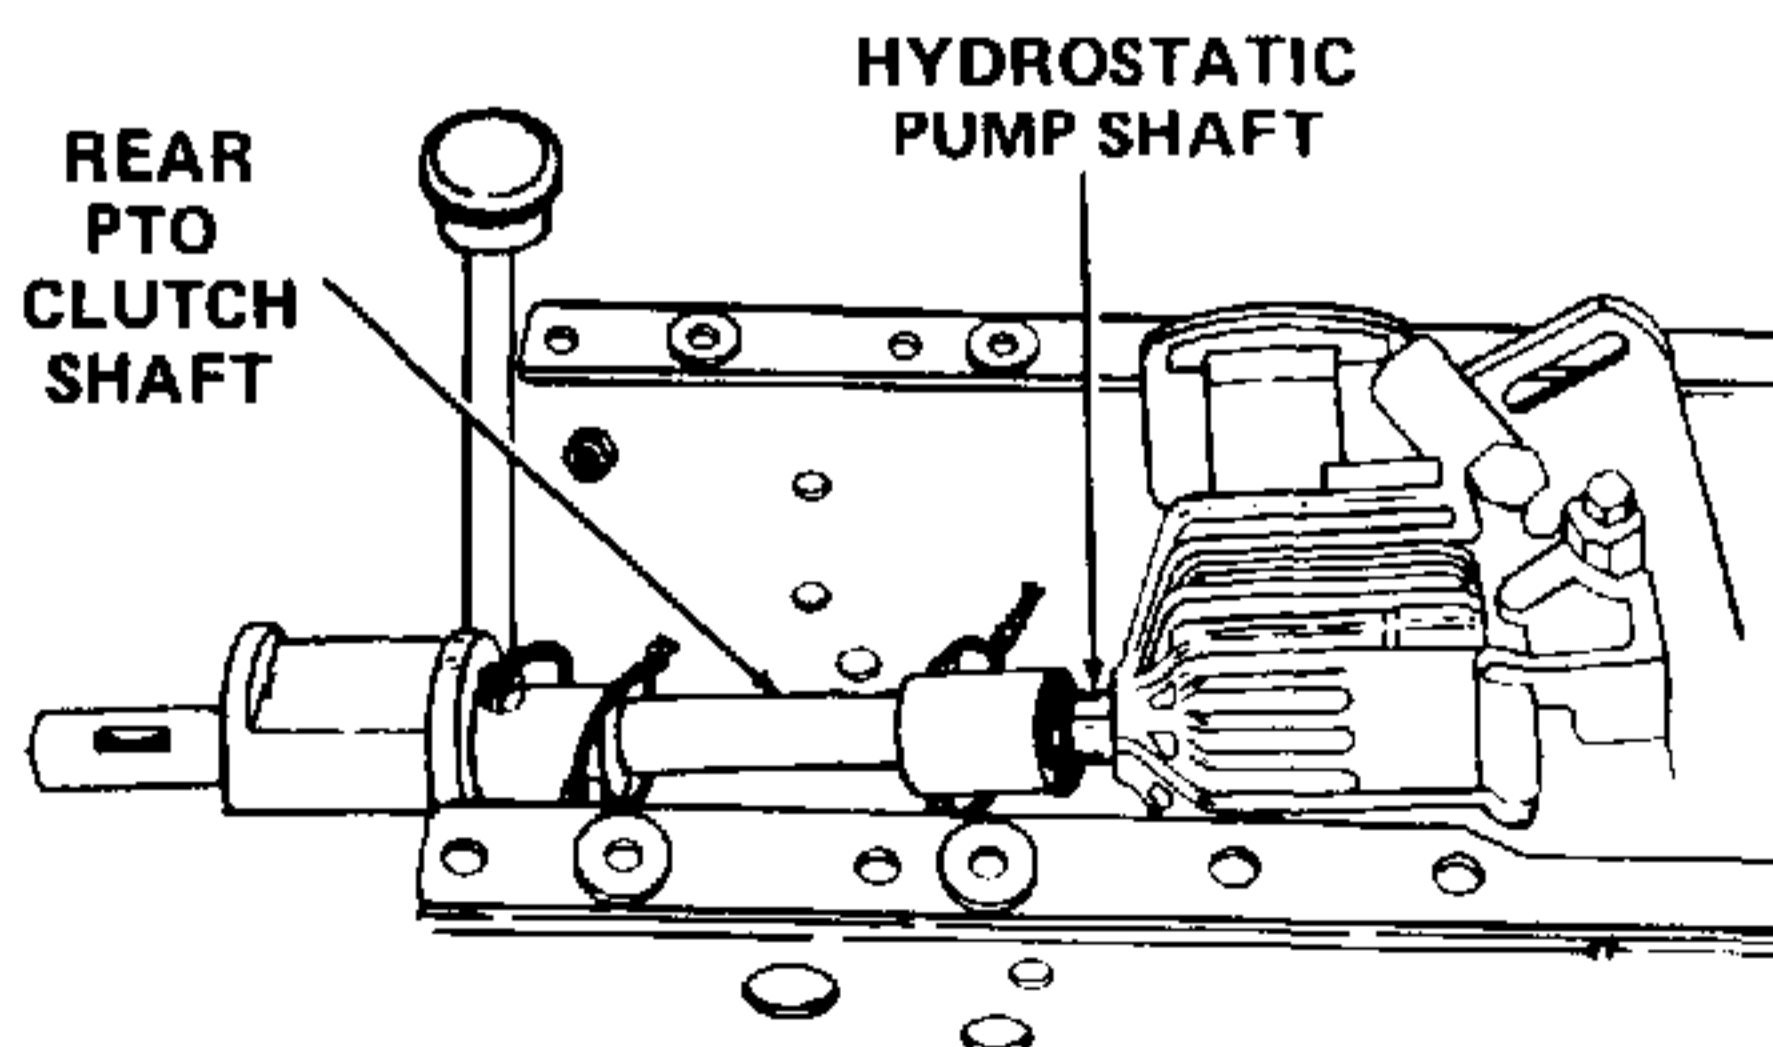

Figure 7-11. Installing Rear PTO Clutch Shaft.
- b. Slide splined end of rear PTO clutch shaft over shaft on hydrostatic pump. Refer to Figure 7-11.